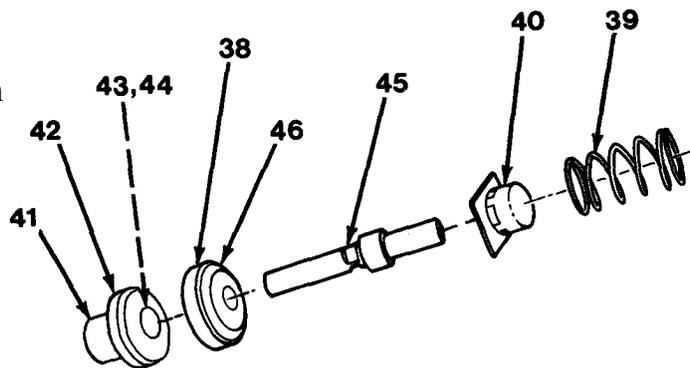

Figure 17-7
7. Remove O-ring (42) from end plug (41, Figure 17-7).
8. Remove cup (43) and back-up ring (44) from bore of end plug (41).